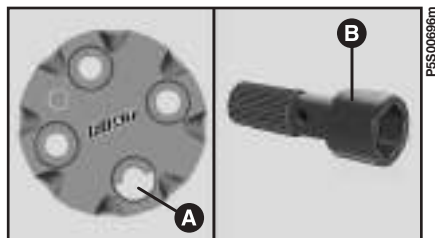

fig. 7
2) Assemble the normal use wheel. If the wheel is fitted with a hub cap, it is necessary to add only one bolt first, then assemble the hub cap by aligning the hole **A**-fig. 7 with the already assembled bolt, screw on the other three bolts, using the extension **B** for fitting the fixing bolts.